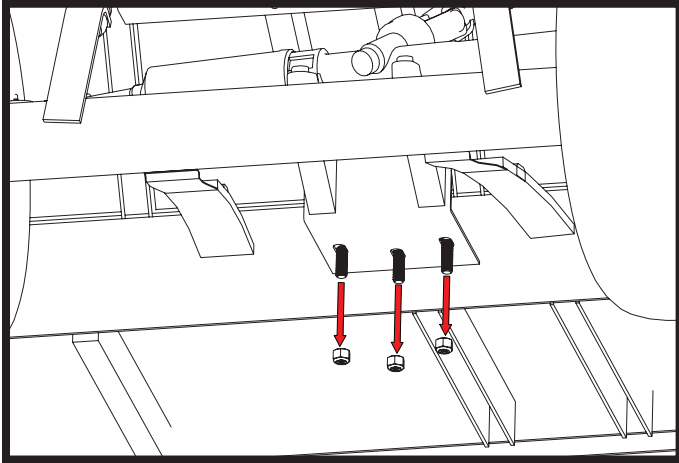

Fig. 3
Roll floor mat back from under vehicle dash to access the three (3) bolts in the floor that hold the front bumper frame to the vehicle frame. Remove these three (3) bolts and three (3) nuts and discard as shown in Figs. 3 & 4. Replace the floor mat, being sure to tuck it under the trim on each side